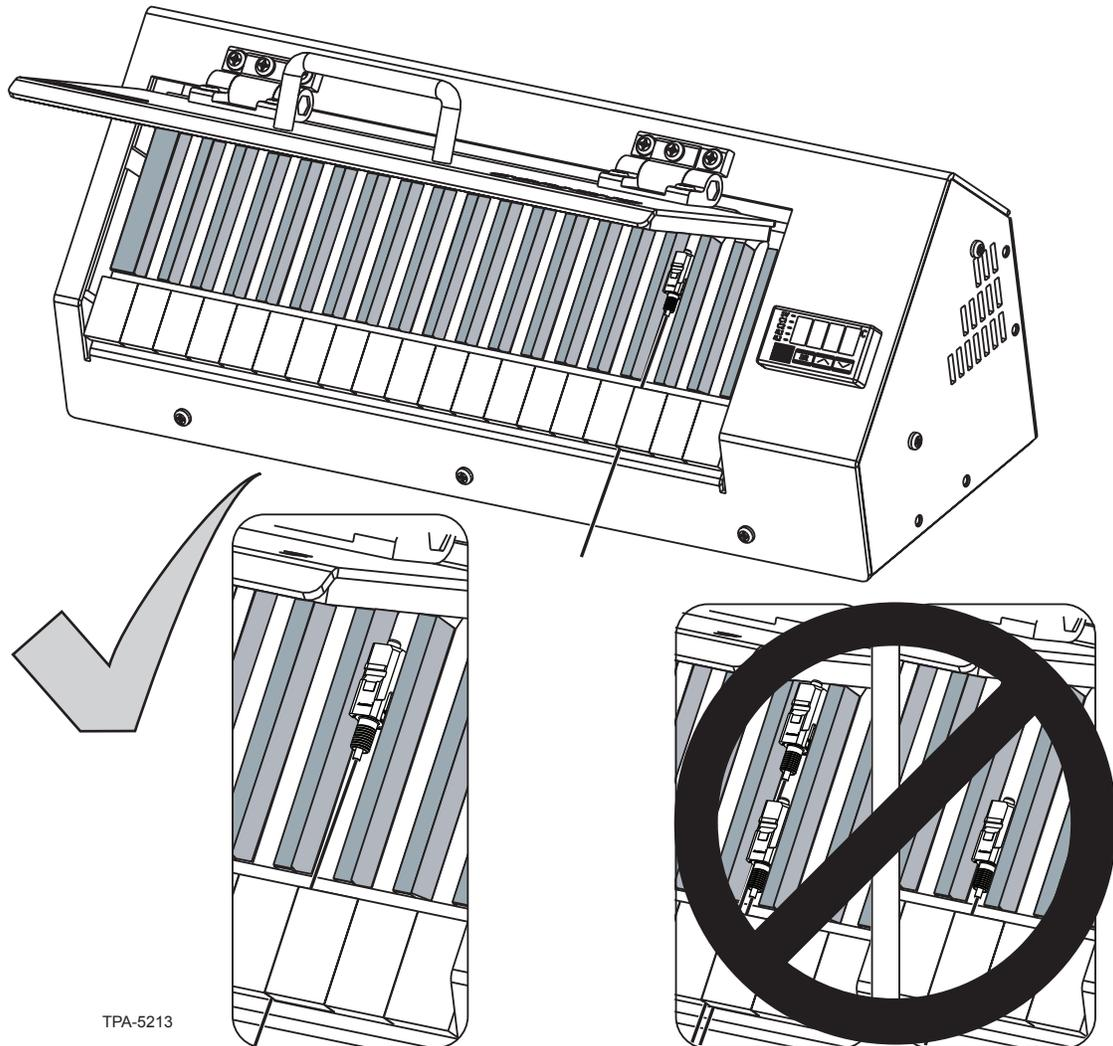

Figure 4
- Step 1:** Open the oven door. The oven door should remain open. If the door will not stay open, adjust the hinges by using a Phillips screwdriver on the adjustable friction hinges. Once the door remains open, place the connector in one of the 18 slots in the aluminum hot plate. Ensure that the connector is in the upper half of the plate for maximum effectiveness in curing the epoxy (Figure 4).